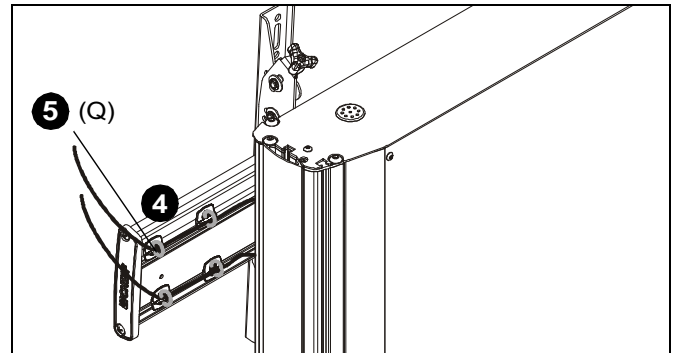

Figure 18
4. Route cables along FCA clips (P) to be used for cable management. (See Figure 18)
5. Use cable ties (Q) to secure cables to FCA clips. (See Figure 18)